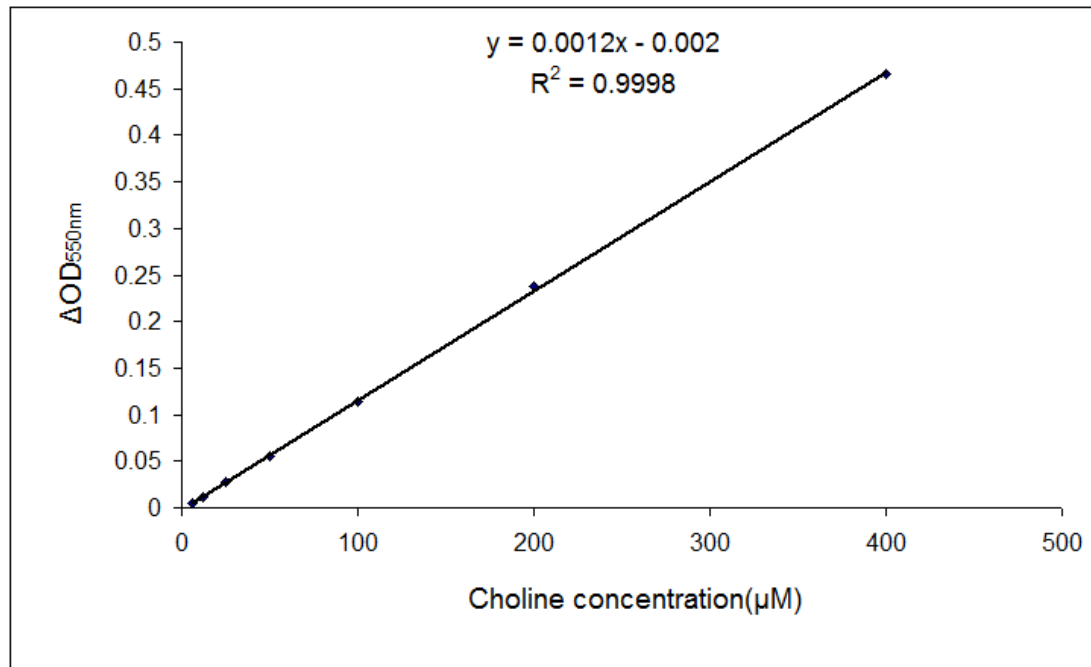

Figure1. A typical choline standard curve measured by ScienCell™ Choline Assay kit.
Data from the Choline Assay kit using choline solutions with concentrations ranging from 6.25-400  $\mu$ M show a linear relationship between OD550nm and choline concentration (Figure 1).
2. Based on the calibrated  $\Delta\text{OD}_{550\text{nm}}$  of the choline standard, make a standard curve by plotting  $\Delta\text{OD}_{550\text{nm}}$  as a function of choline concentration (see Figure 1 for a typical standard curve). Determine the equation and  $R^2$  value of the resulting trend line.